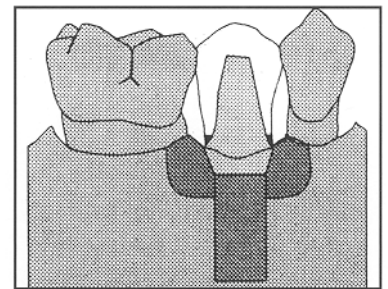

Fig.7
7. The final restoration may then be completed using conventional laboratory techniques (Fig. 7). If it is desired to have a retrievable restoration, a screw-access hole may be left in the occlusal surface of the completed restoration.